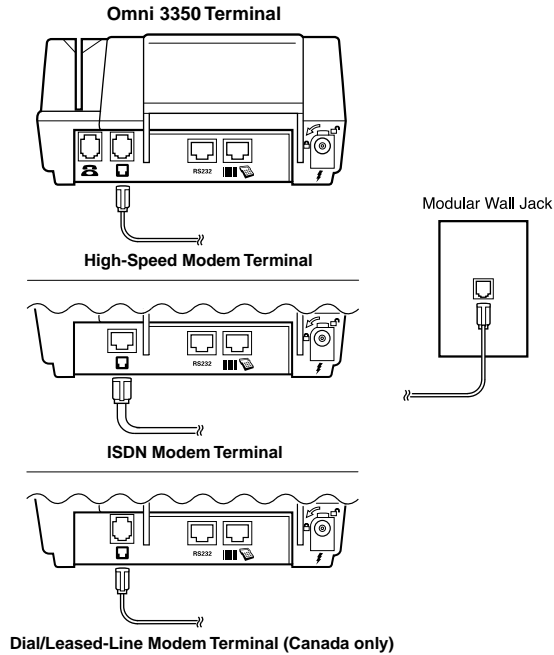

Figure 4 Direct Connections
1. **Direct connection** — A telephone cord runs from the Telco, ISDN, Dial/Leased-Line Port on the terminal directly to a telephone wall jack (Figure 4). With a direct connection, the line is dedicated to the terminal.